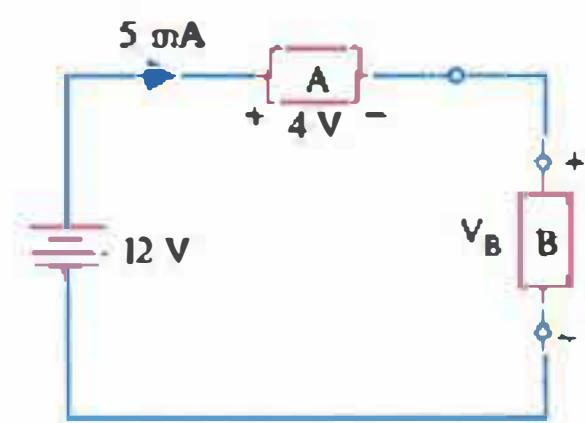

Fig. 2.10
**Example 2.4.** For the circuit of Fig. 2.10, find